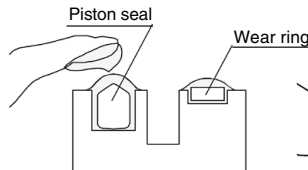
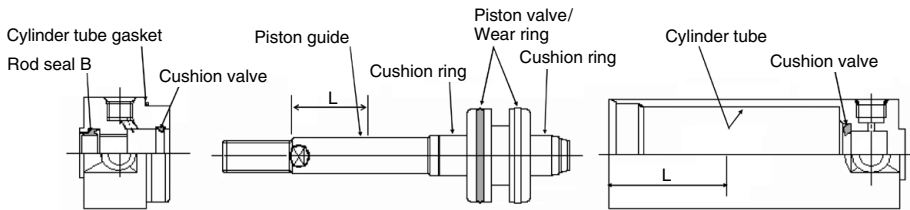

Fig. 7 Piston seal
Fig. 9 Grease application points  $L = \frac{\text{STROKE}}{2}$  or 100 mm and more
- ③⑤ Piston seal: Rub grease into the seal groove and outer circumference of the seal. (Fig. 7)
- ④② Cylinder tube gasket: Lightly apply grease.
- Cylinder component parts: Apply grease to each component parts of the cylinder in Fig. 9.